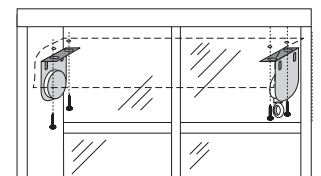

Fig. 5
- b. Mark the holes where you are going to put your four screws (fig. 5).
- b. Install the Crank Bracket and Idle End Bracket through the holes in the Valance (fig. 5).